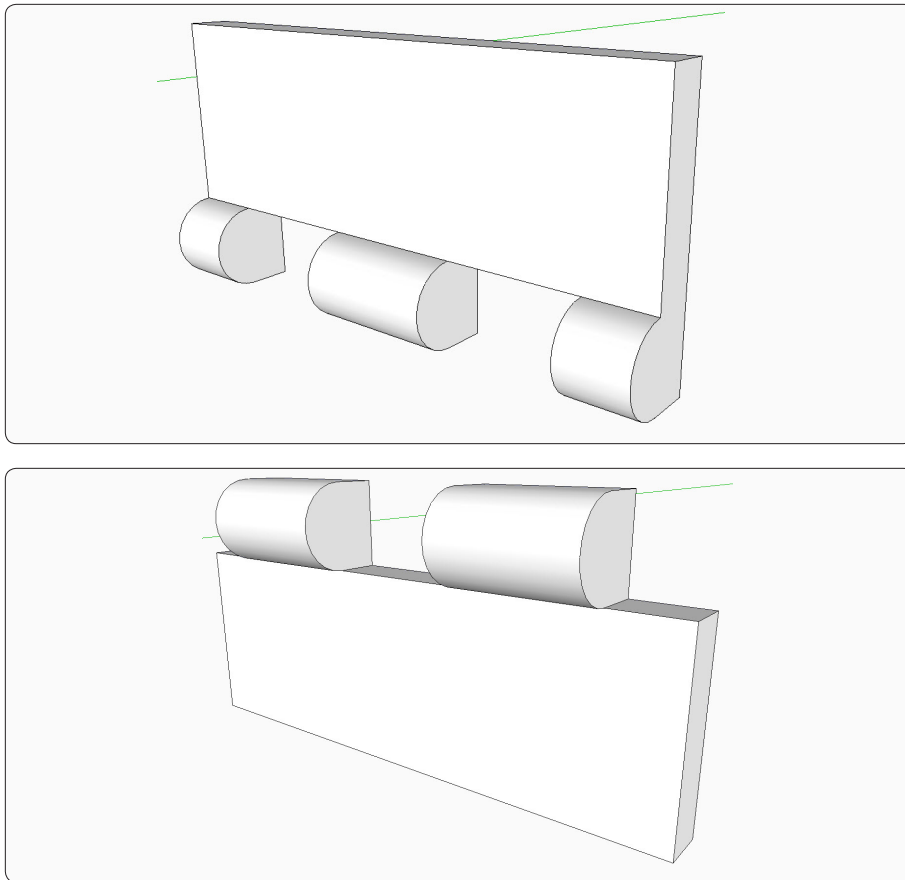

Figure 109. Copy the hinge twice. On one copy, remove the lower half; on the other, the upper half.
Step 7 Make two copies of the hinge plate with divided knuckle. Make each a unique component. On one copy, use the Eraser Tool to remove the lower half of the hinge. On the second copy, remove the upper half (Figure 109).